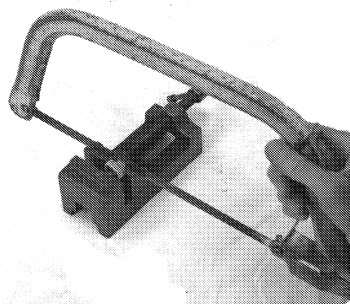

Figure 3.45
- Firmly grip the nut on the top and bottom faces (Figure 3.45).